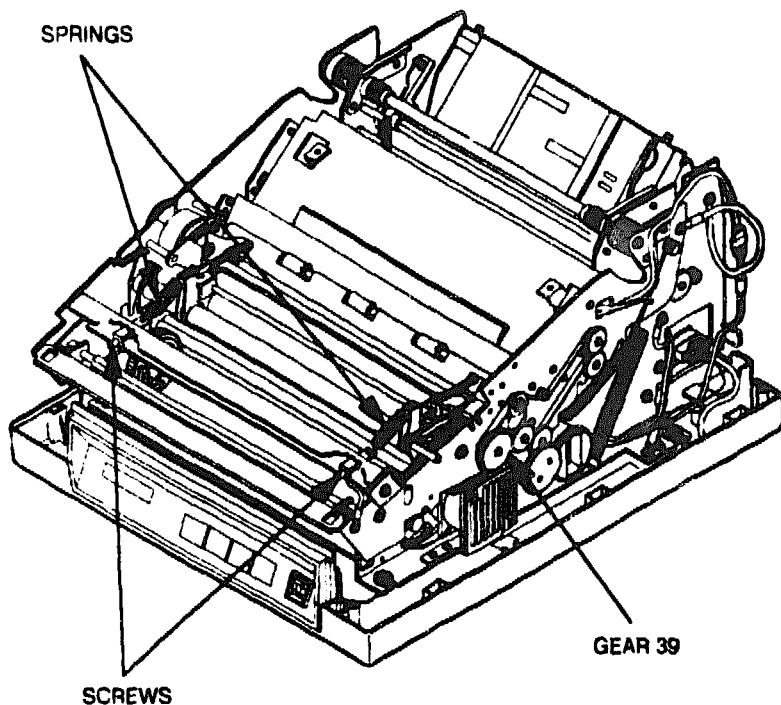
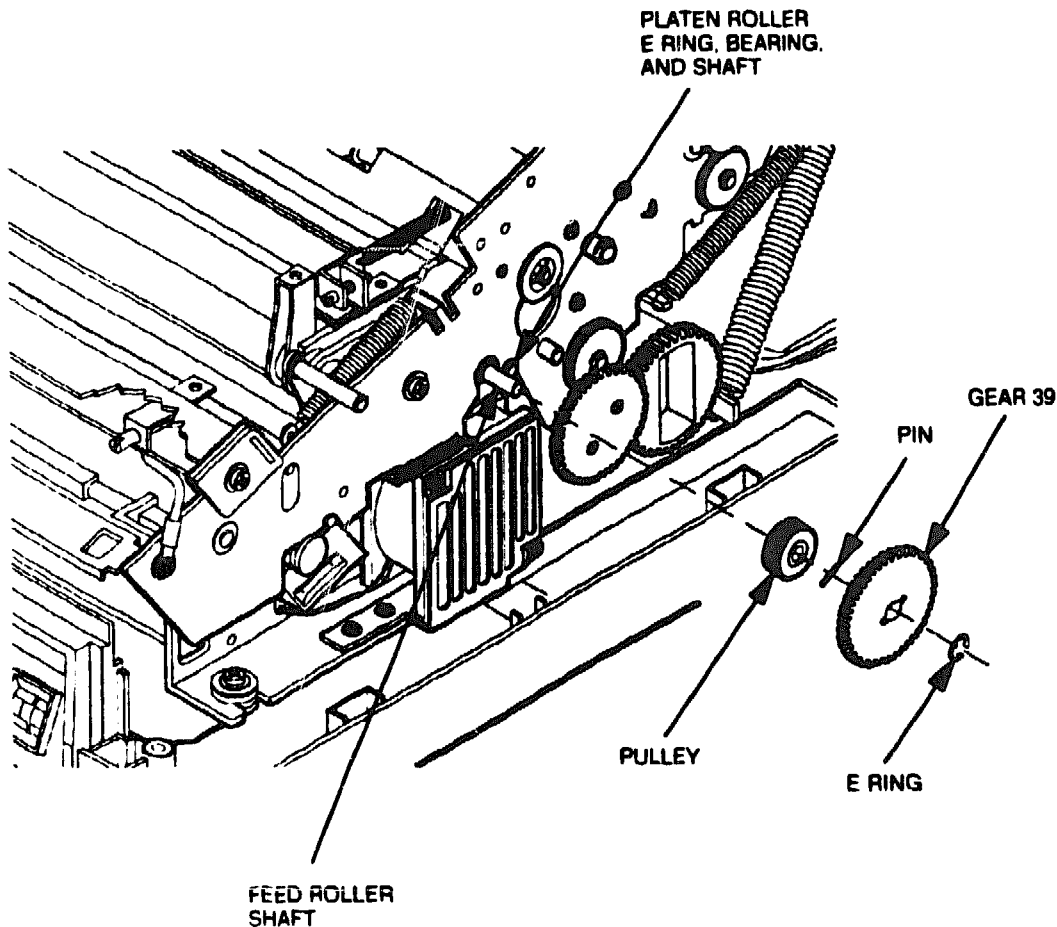

Figure 6-45 Upper Unit Tension Stay Screws and Springs
Figure 6-46 Right Side Frame E Rings, Gears, Bearings, and Shafts
3. To loosen and relieve tension on the upper unit tension stay springs shown in Figure 6-45, turn the screws clockwise.
4. Using long-nose pliers, remove the two springs on the upper unit tension stay (see Figure 6-45).
6. Remove the E retaining ring that secures gear 39 on the upper unit (R) frame (refer to Figure 6-45) to the feed roller shaft. Then pull off gear 39 as shown in Figure 6-46.
7. Remove the pin and pulley on the feed roller shaft (see Figure 6-46).
8. Remove the E retaining ring and bearing that secure the platen roller shaft to the upper unit (R) frame (see Figure 6-46).